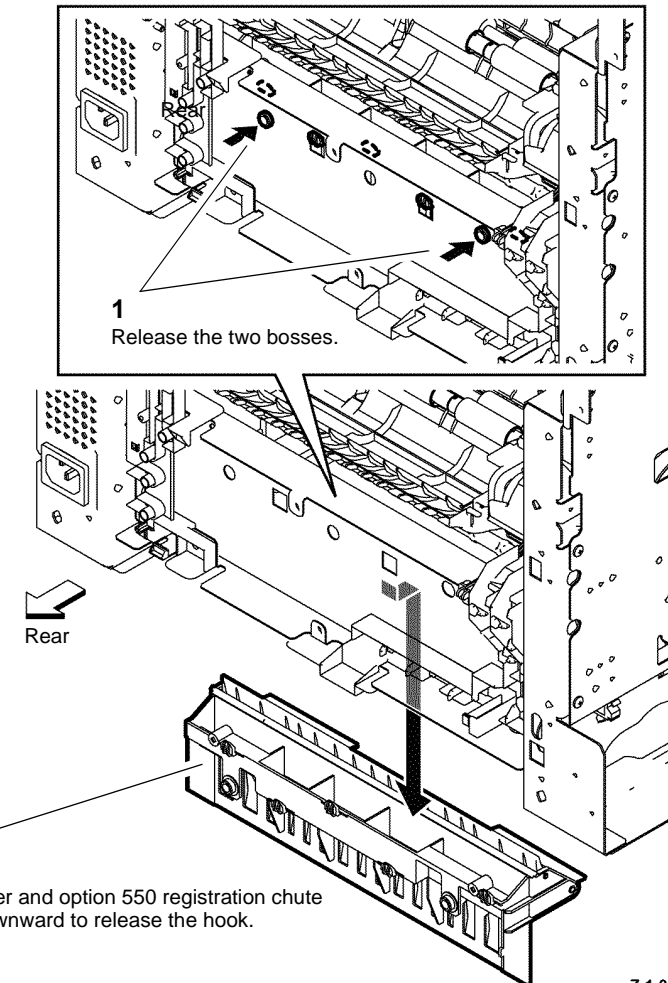

Figure 1 Removal of the chutes
3. Remove the option 550 registration chute and lower registration chute, Figure 1.